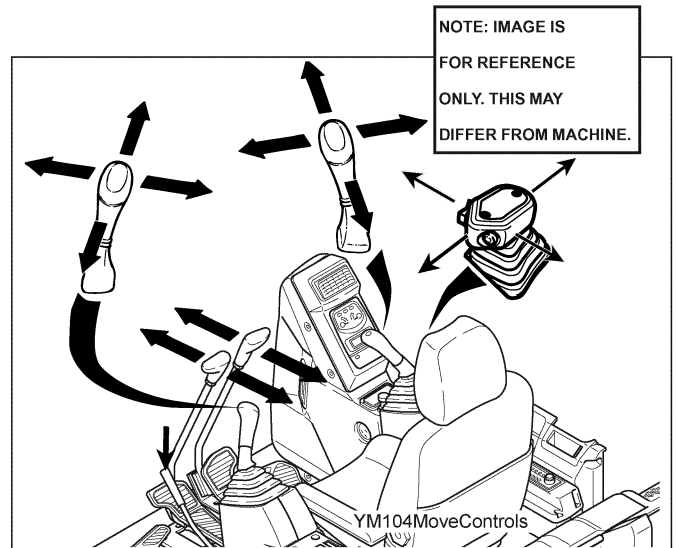

FIGURE 4.6C
4. Shift the right and left travel control levers forward and backward, also operate the right and left control levers as well as the dozer control to full strokes several times, see Fig. 4.6C.